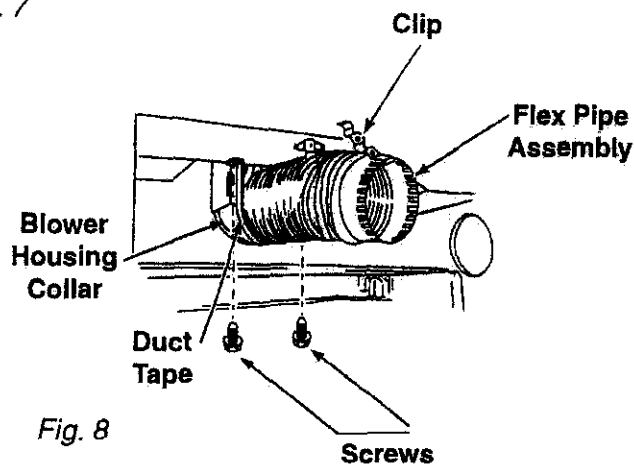

Fig. 8
3. Install the new flex pipe assembly to the blower housing collar using the bracket and screws removed in step 2. Make sure the legs are in the upright position. Secure the assembly with duct tape. Place the clip on the end of the flex pipe. (Fig. 8)